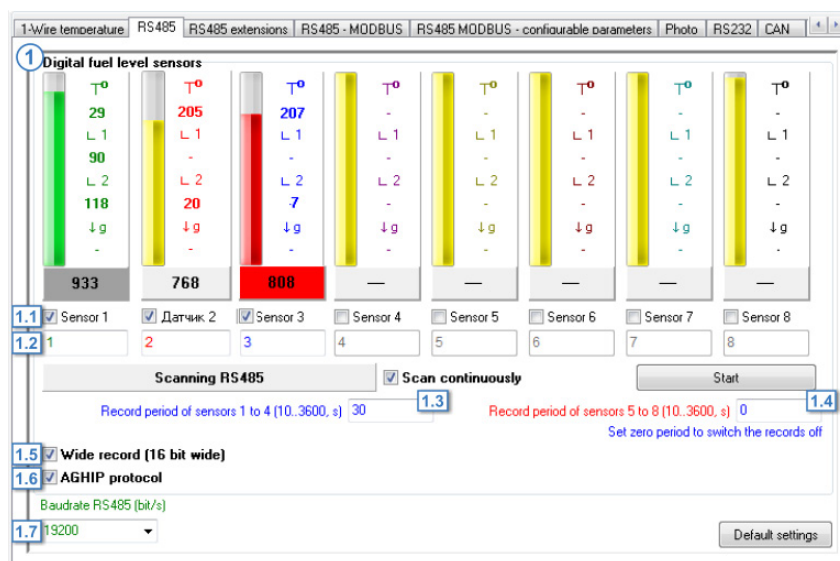

Fig.35. RS-485.
- Before connecting a fuel level sensor to AutoGRAPH device, set its address in the device. To do it, enable an "Sensor 1" option on the RS485 tab (Fig.35, i. 1.1) and specify network address of the connected sensor on the field below (Fig.35, i. 1.2). The sensor with the specified address will be denoted as Sensor 1 in the device settings and its readings will be recorded as readings of LLS1.
- set up a period of recording the sensor readings in the "Record period of sensors 1 to 4" (Fig.35, i. 1.3) and "Record period of sensors 5 to 8" fields (Fig.35, i. 1.4). Minimum period is 10 seconds, maximum period is 3600 seconds, 0 period disables recording of fuel level data.
- if the AutoGRAPH device receives temperature of fuel from a fuel level sensor, enable the "Wide records" option (Fig.35, i. 1.5). Enabling this increases width of data till 16 bits.
- if the TKLS sensor is connected to the AutoGRAPH device, enable the "AGHIP protocol" option (Fig.35, i. 1.6). This protocol allows reading of additional data along with fuel level: angles of sensor inclination and slope, and acceleration of the force, applied to the sensor. The AGHIP protocol is intended only for communication with TKLS fuel level sensors.
- set up baudrate of RS-485 (Fig.35, i. 1.7). Default value is 19200 bit/s. Selecting the baudrate, make sure that all devices connected to the AutoGRAPH are set up to this baudrate.